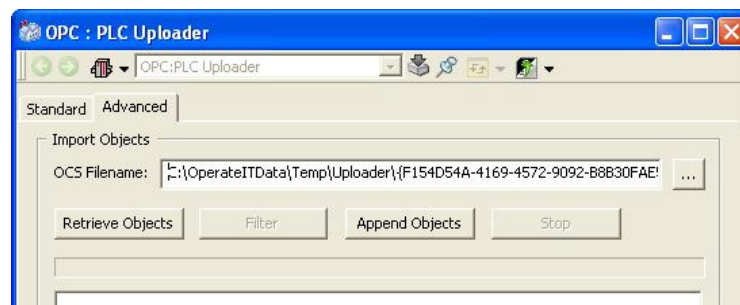

Figure 125. Advanced Tab
3. On the Advanced tab, the user can do a conditional Append after doing Retrieve by editing the Retrieve result in a Filter dialog. Refer to Figure 125.